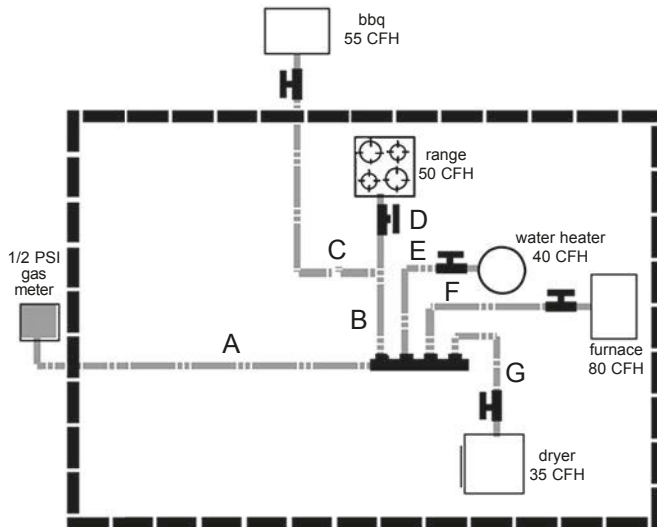

Figure: 3-4
1. The system shown in Figure: 3-4 has a barbeque installed nearby the range. A parallel arrangement was chosen for the medium pressure system (12 inch W.C. with 1 inch W.C. drop) with a single run feeding both range and barbecue in series.